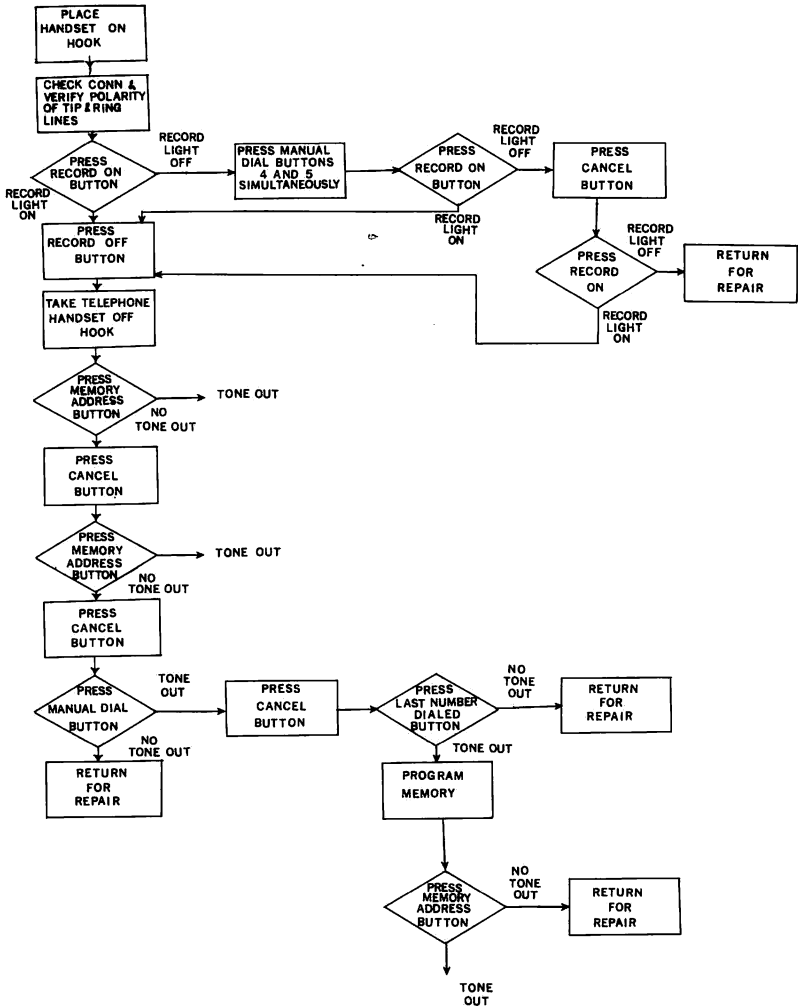

FIGURE 8
The Tone TeleDialer 32T should not be disassembled for field repair. If the unit fails to function properly, refer to the trouble analysis chart, Figure 8. If the procedure identified fails to correct the problem, call ATC Customer Service at (213) 579-1710.
- (A) To remove the casing from the unit, remove the four "holt head" screws from the underside of the unit. A special tool is required for this operation which can be purchased from ATC. (See Table A)
- (B) The panel or surface of the unit can be cleaned, if needed, by using a soft cloth dampened with a diluted mild detergent.